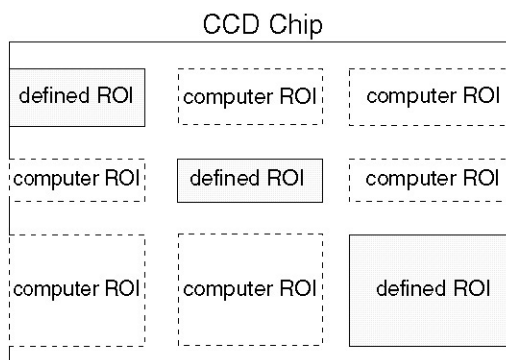
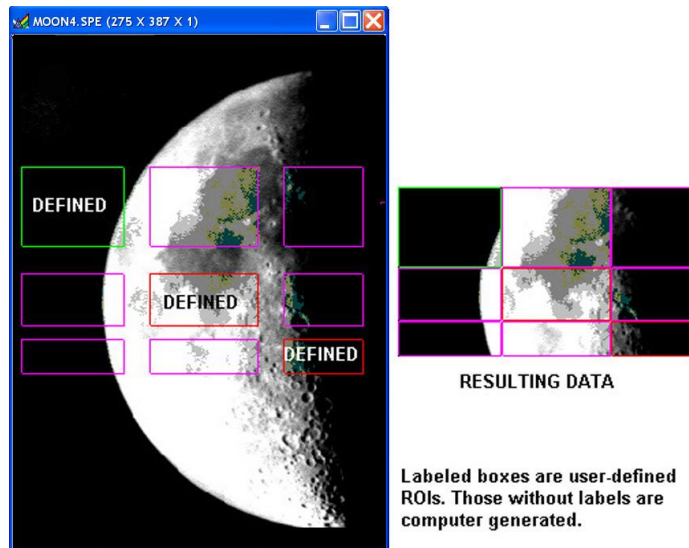

Figure 126. Imaging Mode
Figure 127. Multiple Imaging ROIs and Resulting Data
2. Once the first pattern is defined, all subsequent patterns are automatically assigned the same X-axis starting, ending, and grouping values. The first pattern need not be full width — any values in the chip range can be entered, but once stored, those values will apply as well to subsequently defined patterns. The figures below illustrate possible ROI patterns. Note the additional functionality available in Imaging Mode (Figure 126).
In this mode, ROIs can have varying sizes and degrees of overlap. However, when you define multiple ROIs like those in Figure 126, the computer automatically generates six “side-effect” ROIs in the regions where *extensions* of the strips and columns of the defined ROIs intersect. Both the defined and computer generated ROIs will be stored and the data for both will be displayed (see Figure 127). The side-effect ROIs are necessary to accommodate hardware limitations.